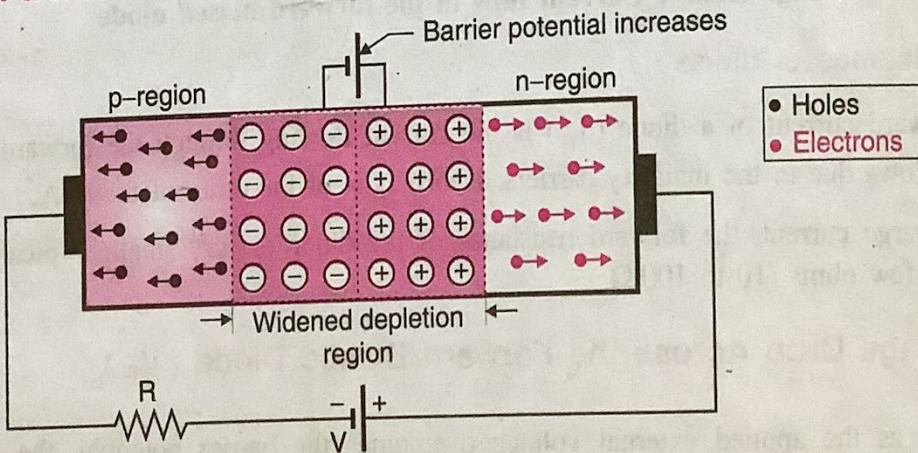

Fig. 10.6.6 : Operation of a reverse biased diode
terminal of the supply and electrons on the n-side are attracted towards the positive terminal of the supply as shown in Fig. 10.6.6.
- Due to the movement of electrons and holes away from the junction, width of the depletion region increases as shown in Fig. 10.6.6. This happens due to the creation of more number of positive and negative immobile ions.